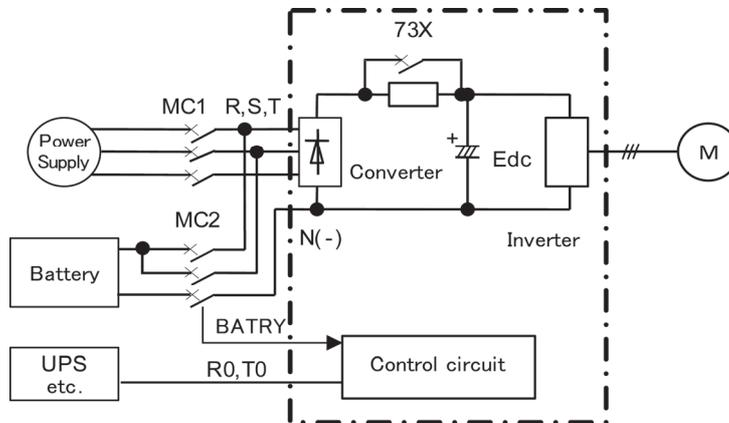
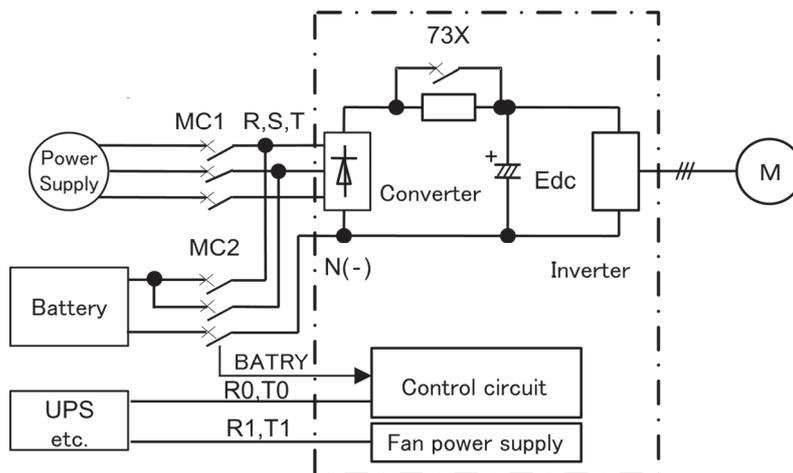
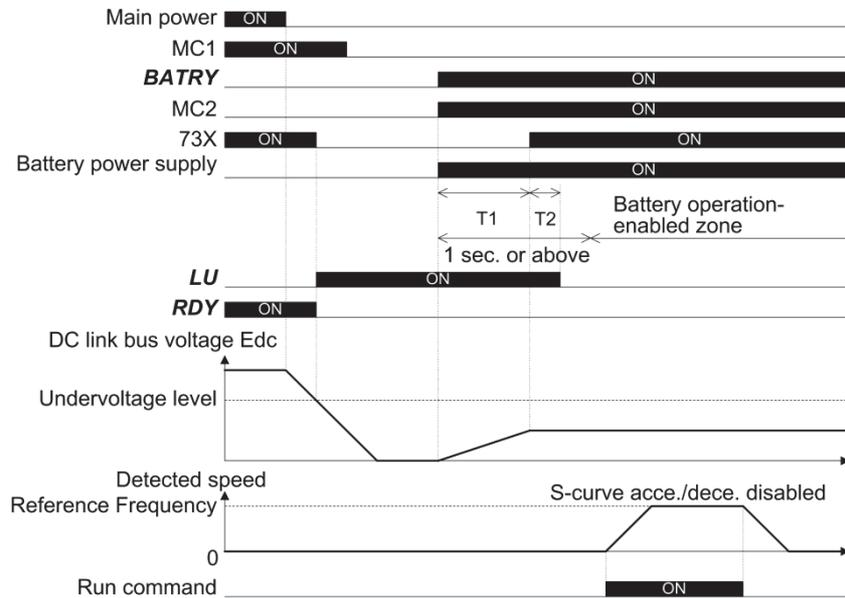

Figure 5.3-7 Connection diagram example (FRN0115E2■-2□ or below, FRN0168E2■-4□ or below)
Figure 5.3-8 Connection diagram example (FRN0203E2■-4□ or above)
Figure 5.3-10 Battery operation timing chart
- (1) Terminal function **BATRY/UPS** (data = 59) can be assigned to any digital input terminal.
- (2) As shown in Figure 5.3-7 and Figure 5.3-8, DC link bus voltage is supplied from the battery to the main circuit (L1/R-L3/T or L2/S-L3/T).
- (3) The specified voltage (sinusoidal waveform or DC voltage) is input to auxiliary power terminal (R0-T0).
- (4) In case of FRN0203E2■-4□ or above, input the specified power supply (sinusoidal waveform) to the fan power supply auxiliary input (R1-T1) as shown in Figure 5.3-9, and change the fan power supply switching connector as shown in Figure 5.3-10 in order to execute the battery operation.
- (5) The terminal that **BATRY/UPS** (data = 59) is assigned has to be turned on simultaneously with the MC2.